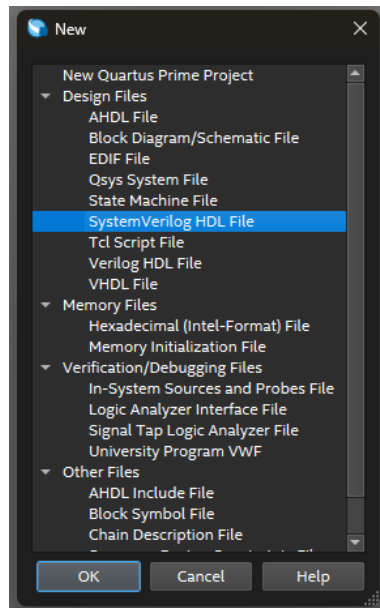

Figure 4. New file
12. In the top menu, select **New**, then choose **SystemVerilog HDL File** under Design Files, as shown in Figure 4. Click **OK** to finish.